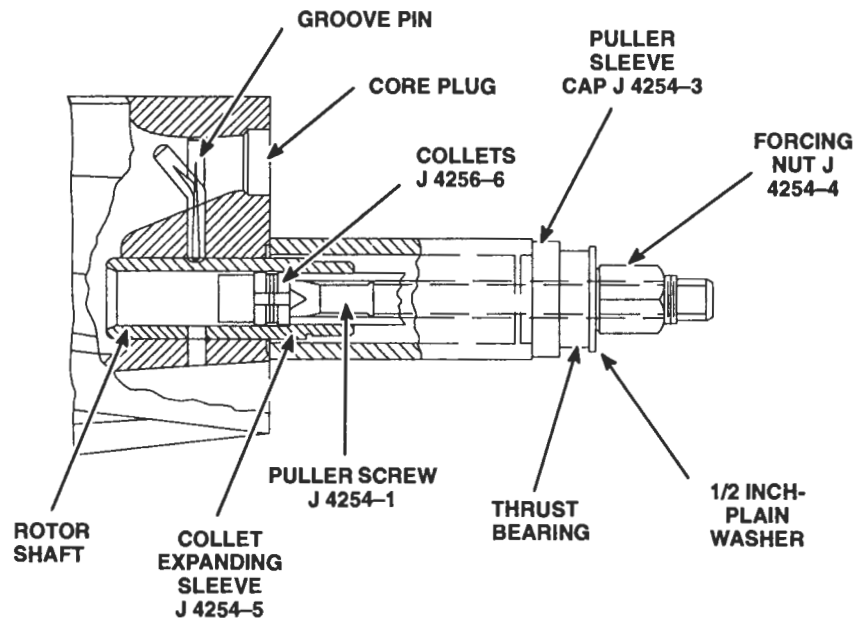

Figure 1. Rotor Stub Shaft Removal
1. Use a sharp screwdriver or similar tool to punch a hole in the center of the core plug opposite the visible drilled hole in the rotor (Figure 1.) and pry out the plug.